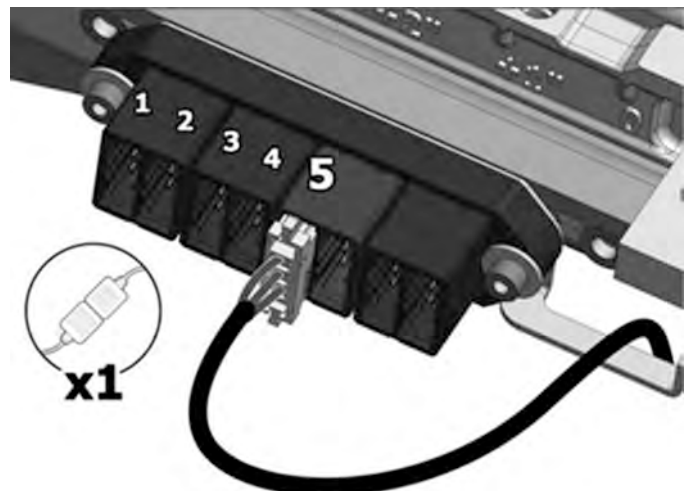

Figure 184. The Tilt Motor Cable is connected to the fifth position of the connector block.
5. Connect the tilt motor cabling to the contact block at the seat frame. See fig. 184. Assemble the cable to its cable brackets. See *AP Elevator Tilt Motor Cabling*, Page 77.